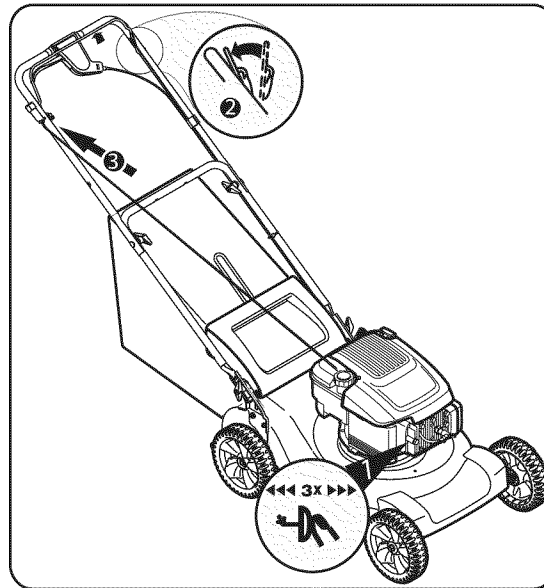

Figure 9
1. Push primer three times. Wait about two seconds between each push. See Figure 9. In temperature around 55° F or below, prime five times. Do not prime to restart a warm engine.
2. Standing behind the mower, squeeze the blade control against upper handle. See Figure 9.
3. Grasp recoil starter handle and pull rope out with a rapid, continuous, full arm stroke. See Figure 9. Keeping a firm grip on the starter handle, let the rope rewind slowly. Repeat until engine cranks. Let the rope rewind each time slowly.